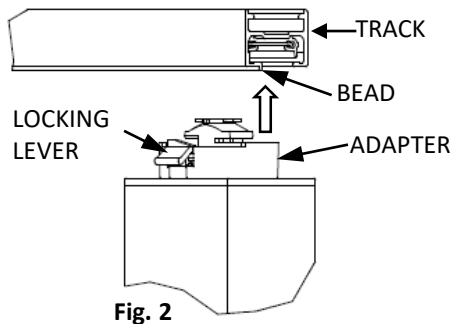

Fig. 2
1. Insert into LYTESPAN TRACK (Fig. 2). LOCKING LEVER must be on the same side of track as BEAD.